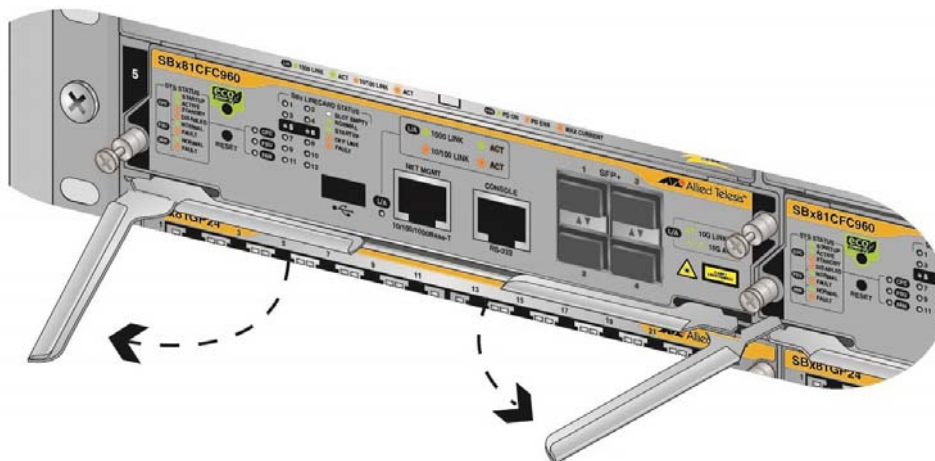

Figure 187. Pulling out the Retaining Handles on the AT-SBx81CFC960 Controller Card
4. Carefully pull out the handles of the faceplate to disconnect the controller card from the internal connector on the backplane of the chassis. Refer to Figure 187.